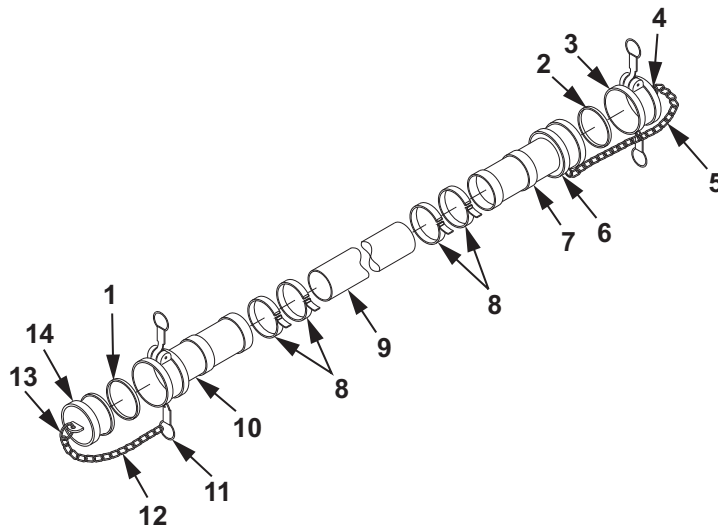

Figure 9. 4 X 10 Ft Suction Hose Assembly Repair.
21. Install new gaskets (Figure 9, Item 1, 2) into quick disconnect dust cap (Figure 9, Item 3) and female coupling half (Figure 9, Item 10).
22. Install quick disconnect dust cap (Figure 9, Item 3) onto male coupling half (Figure 9, Item 7).
23. Install quick disconnect dust plug (Figure 9, Item 14) into female coupling half (Figure 9, Item 10).
24. Install split ring (Figure 9, Item 13) on quick disconnect dust plug (Figure 9, Item 14).
25. Install split ring (Figure 9, Item 13) on chain (Figure 9, Item 12).
26. Install split ring (Figure 9, Item 11) on chain (Figure 9, Item 12).
27. Install split ring (Figure 9, Item 11) on female coupling half (Figure 9, Item 10).
28. Install split ring (Figure 9, Item 6) on chain (Figure 9, Item 5).
29. Install split ring (Figure 9, Item 6) on male coupling half (Figure 9, Item 7).
30. Install split ring (Figure 9, Item 4) on chain (Figure 9, Item 5).
31. Install split ring (Figure 9, Item 4) on quick disconnect dust cap (Figure 9, Item 3).